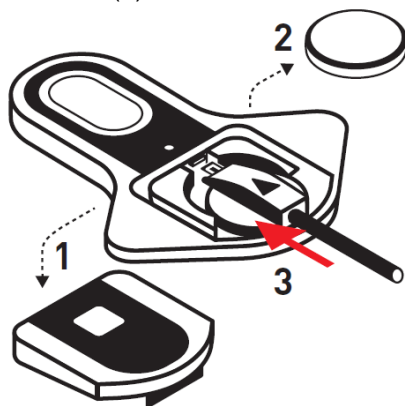

Figure 12 – Connect the download cable
Connect the device plug of the download cable to the socket (Figure 12) of the device (3).